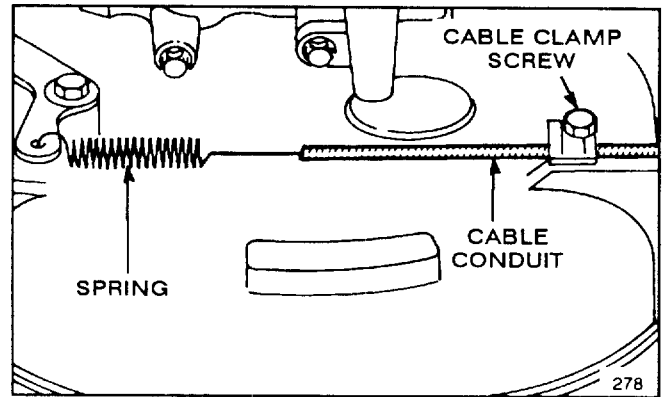

Figure 17
2. Loosen cable clamp screw until brake cable conduit slides (Fig. 17). Pull cable to remove slack, but do not put tension on spring. Tighten screw to lock adjustment in place.